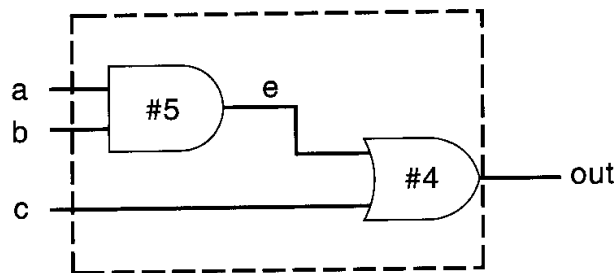

Fig.3.9: Module gates
- The gate-level implementation of the logic equation is shown in fig. 3.9. The module contains two gates with delays of 5 and 4 time units.